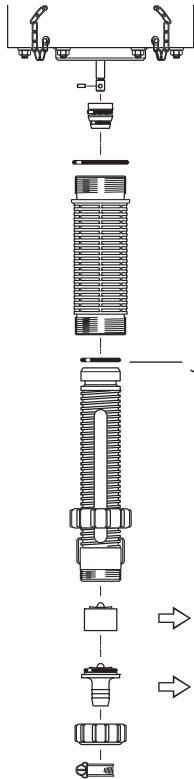

Fig. 16
- Grease the seal with silicone (Fig. 16-J).